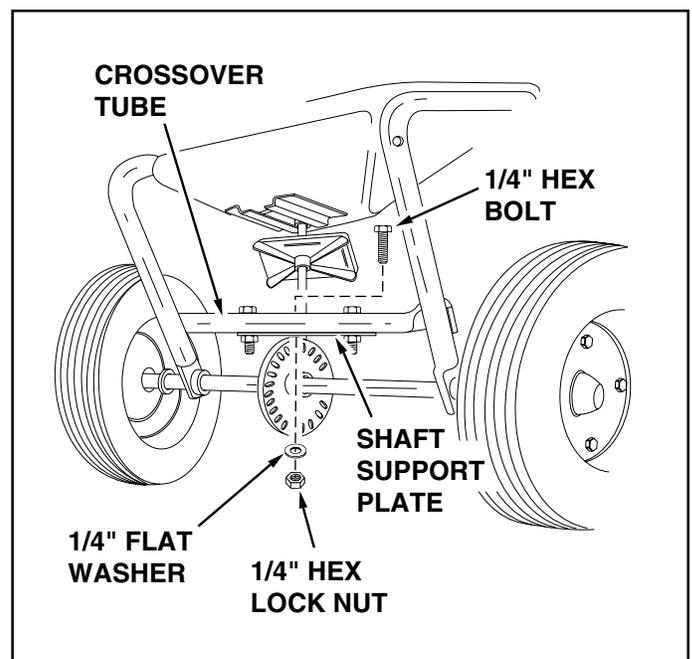

FIGURE 4
8. Remove the middle 1/4" hex bolt, flat washer and hex lock nut from the crossover tube. See figure 4.
9. Place the long handle tube onto the crossover tube on the **side opposite** from the shaft support plate. Fasten with the 1/4" hex bolt, flat washer and hex lock nut removed in the previous step. See figures 4 and 5. **Do not tighten at this time.**